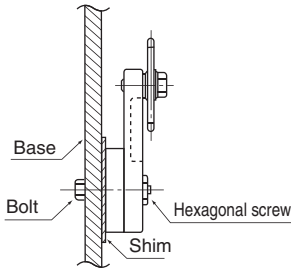

Fig. 4 Tightening the tensioner
- 6) Push in on the chain with the tensioner and temporarily tighten the tensioner to the base with a bolt. (Fig. 4)